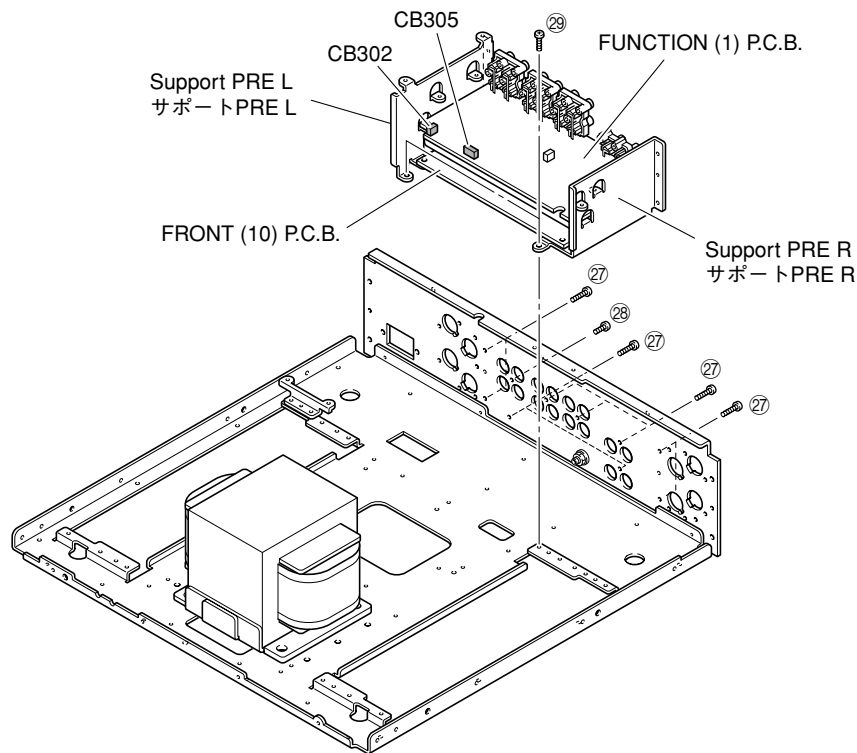

Fig. 10
9. Removal of FUNCTION (1) P.C.B. and FRONT (10) P.C.B.
- Remove 9 screws (27), a screw (28), and 2 screws (29). (Fig. 10)
- Remove CB302 and CB305. (Fig. 10)
- Remove FUNCTION (1) P.C.B and FRONT (10) P.C.B. together with the support PRE L/R. (Fig. 10)
9. FUNCTION (1) P.C.B.およびFRONT (10) P.C.B.の外し方
- 27のネジ9本、28のネジ1本、29のネジ2本を外します。(Fig. 10)
- CB302、CB305を外します。(Fig. 10)
- FUNCTION (1) P.C.B.およびFRONT (10) P.C.B.をサポートPRE L/Rと一緒に取り外します。(Fig. 10)